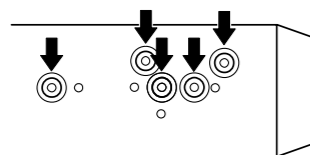
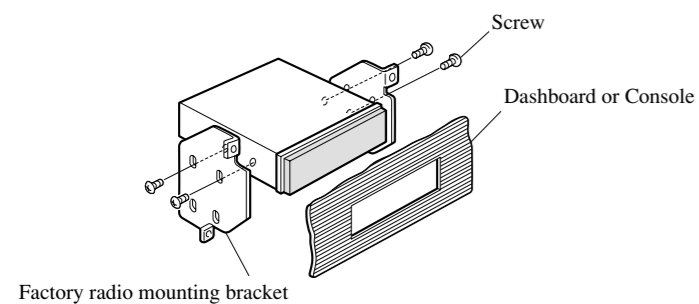

Fig. 9
Fig. 10
**2. Fastening the unit to the factory radio mounting bracket. (Fig. 9) (Fig. 10)**